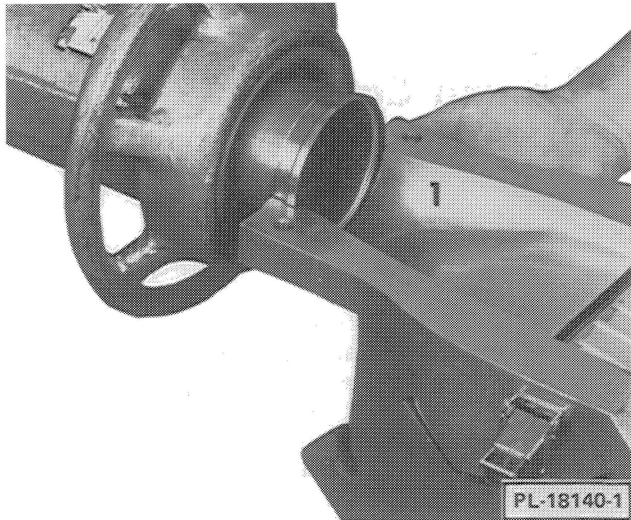

Fig. 4
4. Now place lower section of machine into position, so that groove and flange of chute (1, Fig. 4) mates with the flanged adapter which is attached to the chopper. To accomplish this operation, support the machine on the molder support stand or a table (or block) of the proper height.